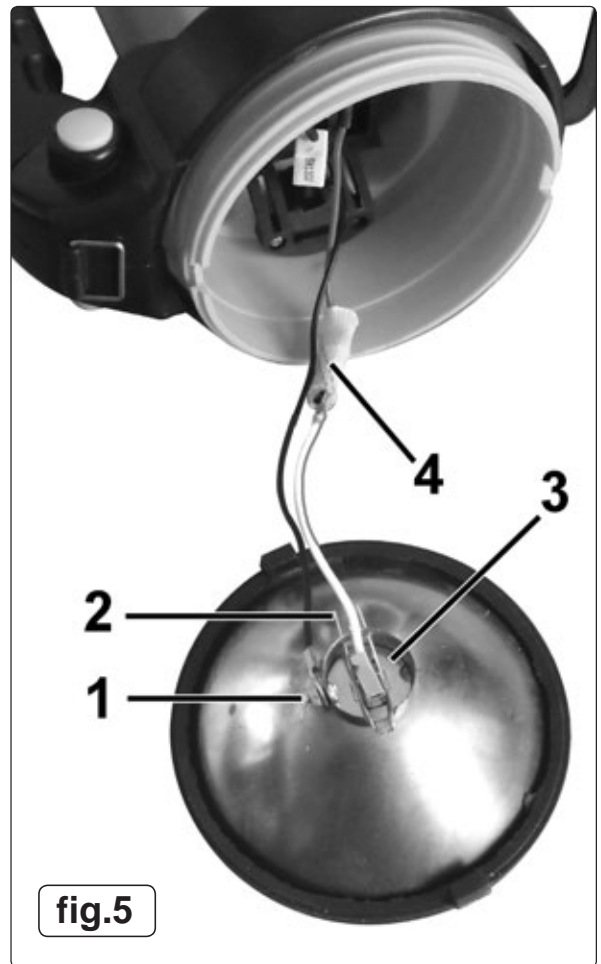

fig.5
2. Carefully lift out the reflector assembly and lay it face down as in fig.5.